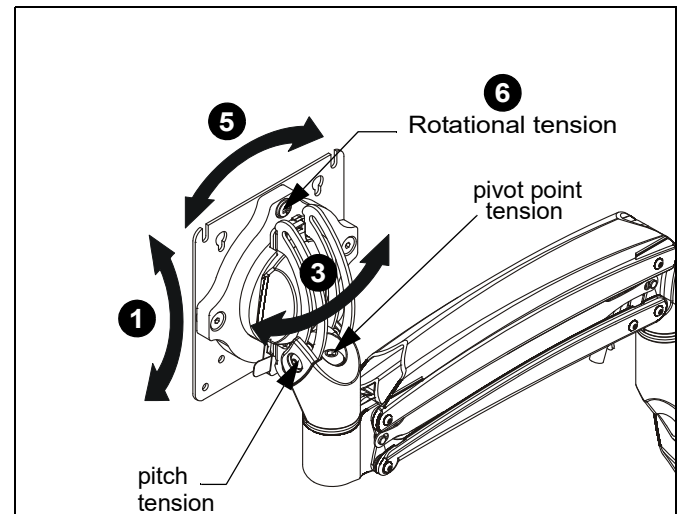

Figure 13
1. Adjust pitch to desired tilt position. (See Figure 13)
2. Adjust pitch tension screw to change the adjustment tension. (See Figure 13)
3. Adjust pivot position as desired. (See Figure 13)
4. Use 3/16" hex key (K) to adjust pivot point tension screws to change pivot adjustment tension. (See Figure 13)
5. The monitor may be adjusted 90 degrees in either direction in order to provide a portrait view of the monitor. (See Figure 13)
6. Use 3/16" hex key (K) to adjust rotational adjustment screw to adjust rotational tension. (See Figure 13)